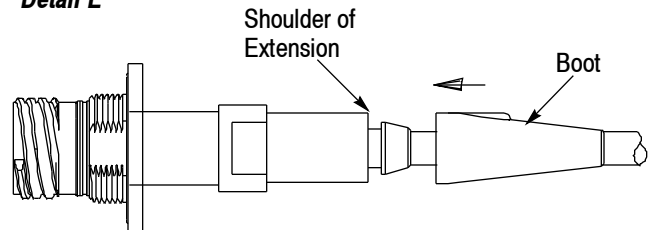

Figure 13
15. Slide the cable seal over the cable until it is approximately 10 mm from the washer. See Figure 13, Detail A.
16. Apply the O-ring grease to the front and back and to the outside diameter of the cable seal. Also, apply the grease around the cable jacket between the cable seal and the washer. See Figure 13, Detail B.
17. Apply several drops of the threadlocker to the threads of the housings. See Figure 13, Detail B.
18. Apply a *thin film* of the O-ring grease to the inside edge of the extension (this is necessary to prevent damage to the O-ring of the housing). See Figure 13, Detail C.
21. Apply the instant adhesive completely around the cone of the extension. See Figure 13, Detail D.
22. Slide the boot over the cone of the extension until it is tight against the shoulder of the extension. See Figure 13, Detail E. Remove any excess adhesive.